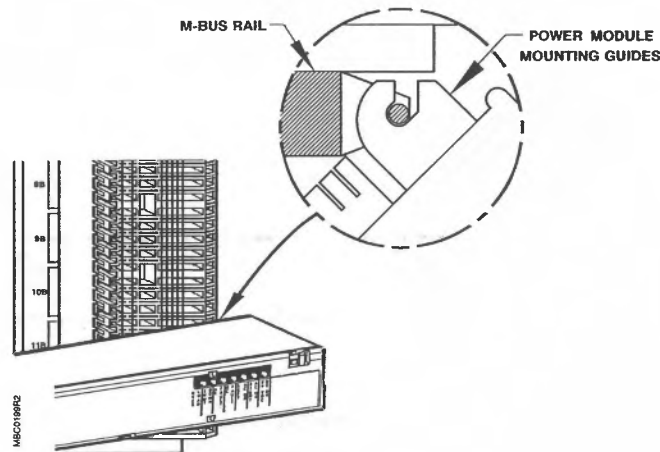

Figure 4. Positioning Mounting Guides.
8. Align the edge of the right-hand M-Bus rail with the Power Module mounting guides positioned as shown in Figure 4.